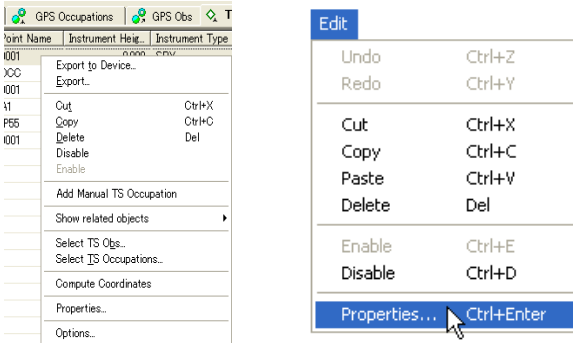

Figure 5-81. Ways to Open Properties
2. Right-click the selected occupation(s) and click **Properties** on the pop-up menu, or click **Edit ► Properties** (Figure 5-81).